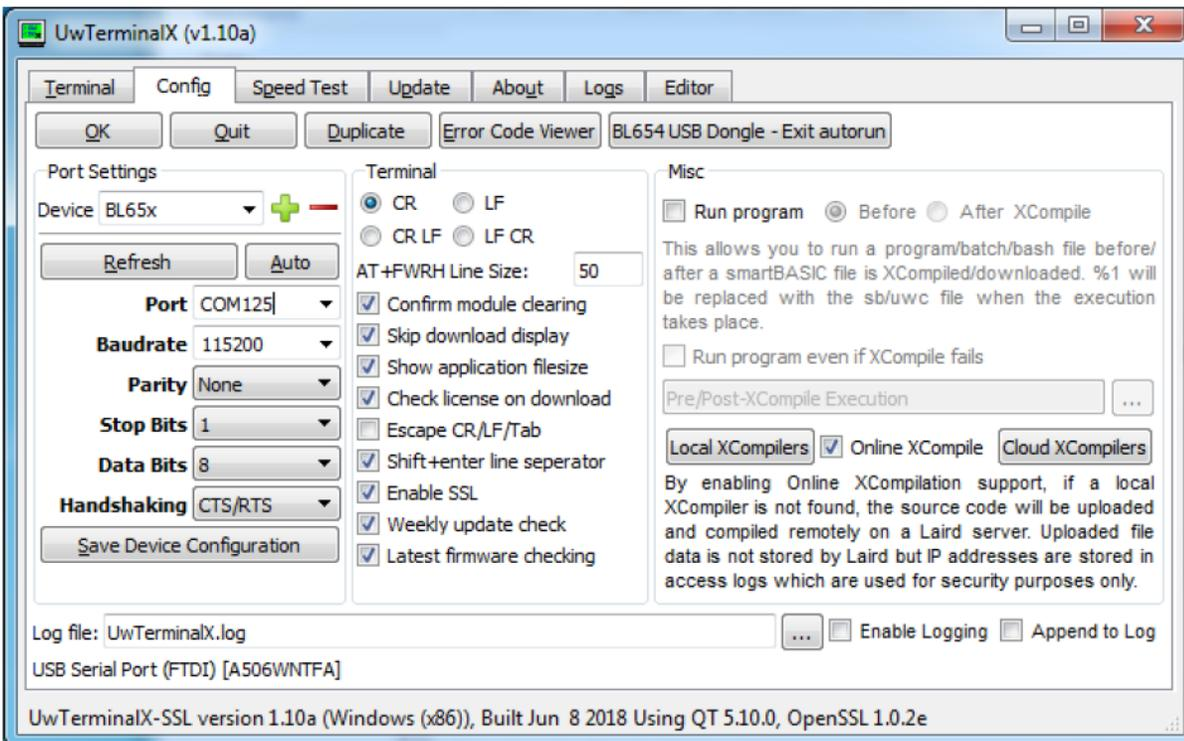

Figure 2: UwTerminalX Settings
5. Select the correct COM port. If you cannot select *BL65x*, manually select the following UART settings (shown in Figure 2: UwTerminalX Settings):